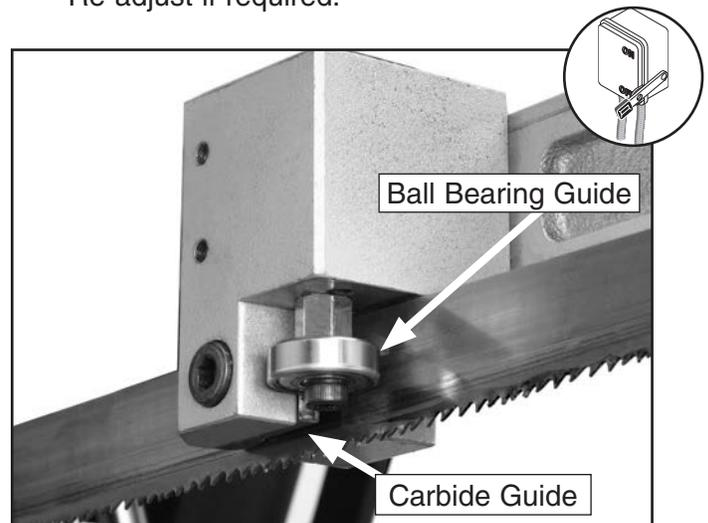

Figure 47. Guide types.
- When finished with the carbide guide adjustments, make sure the ball bearing guide (**Figure 47**) adjustments have not changed. Re-adjust if required.